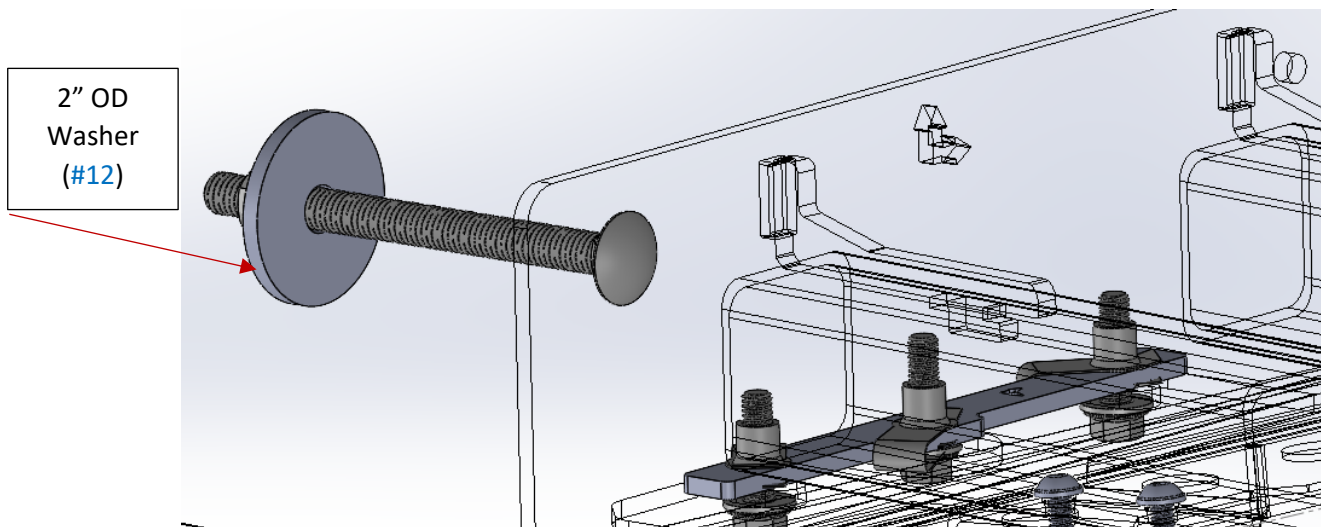

Figure 10 Front Frame Plate
- two (2) total mounting locations on main rearmost frame plate.
19) Install one (1) 7/16" x 5" Carriage Bolt (#3) with the threads facing the inside of the vehicle through the square mounting hole. On the opposite side of the frame install the 2" OD Washer (#12), 7/16" Split Lock Washer (#5), and 7/16" Hex Nut in that order and hand tighten the nut. Reference *Figure 10*.